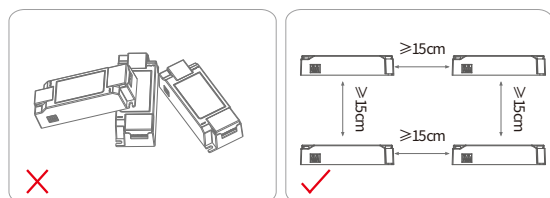

Figure 1
- 1.The driver should be a certain distance between the drivers, as shown in Figure 1.